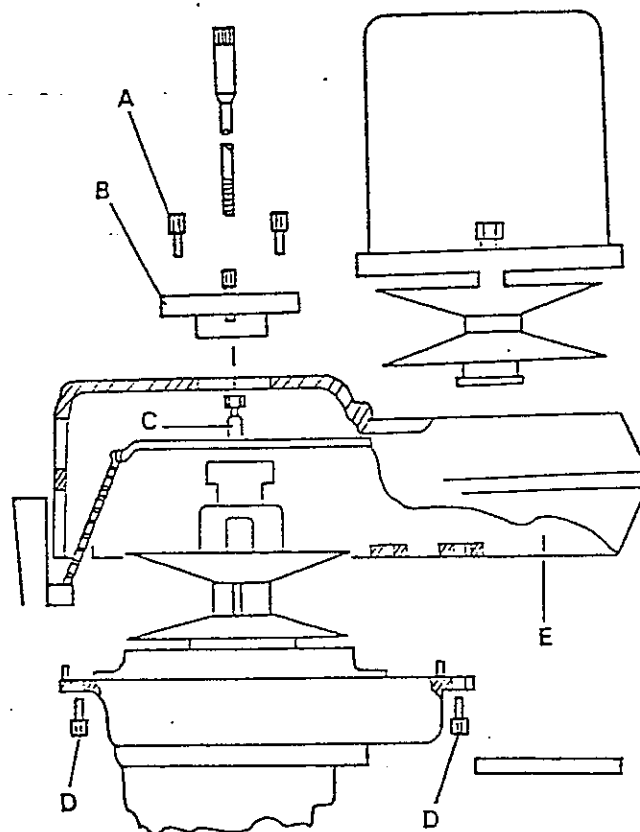

Figure 4. Removing the Vari-Drive Belt
Complete the previous procedures for removing the motor, then remove the three screws (A, Fig 4) and lift out the top bearing cap (B). Looking down inside of the housing, locate and remove two socket head cap screws and sleeves (C). Next, remove the six screws (D) then holding the belt housing (E) to the base.